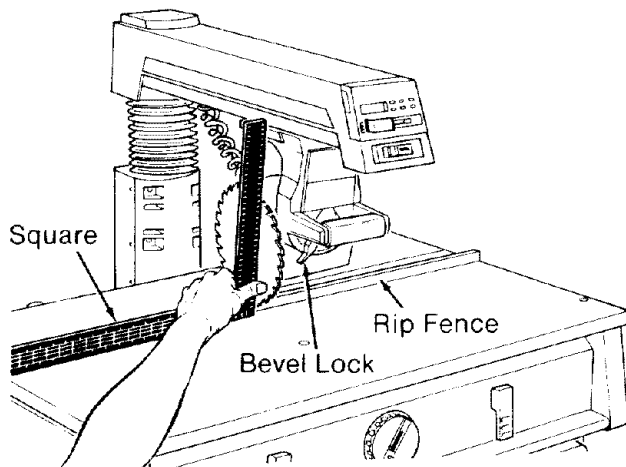

Fig. 107
3. Place the long edge of the framing square on the *table* and the short edge against the *blade*. Make sure that the square is against the blade surface and not the set of a tooth. (Figure 107)